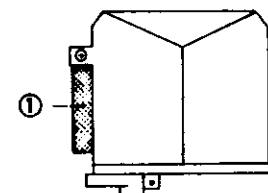

Fig. 27
- 6) Attach the SHIELD (No. 1) shown in Fig. 27.